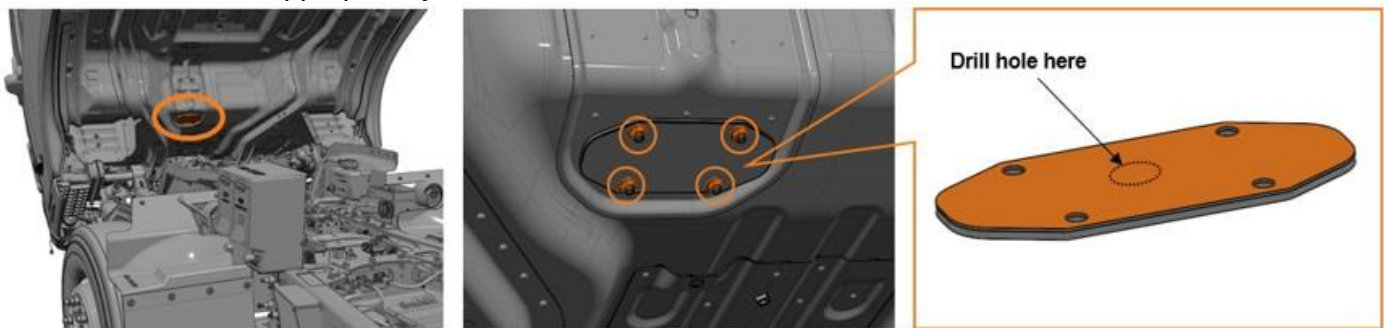

Figure 2
- Access the Floor Block-Off Plate, refer to Figure 2.
- Remove the four fasteners, refer to Figure 2.
- Remove the Floor Block-Off Plate and gasket, refer to Figure 2.